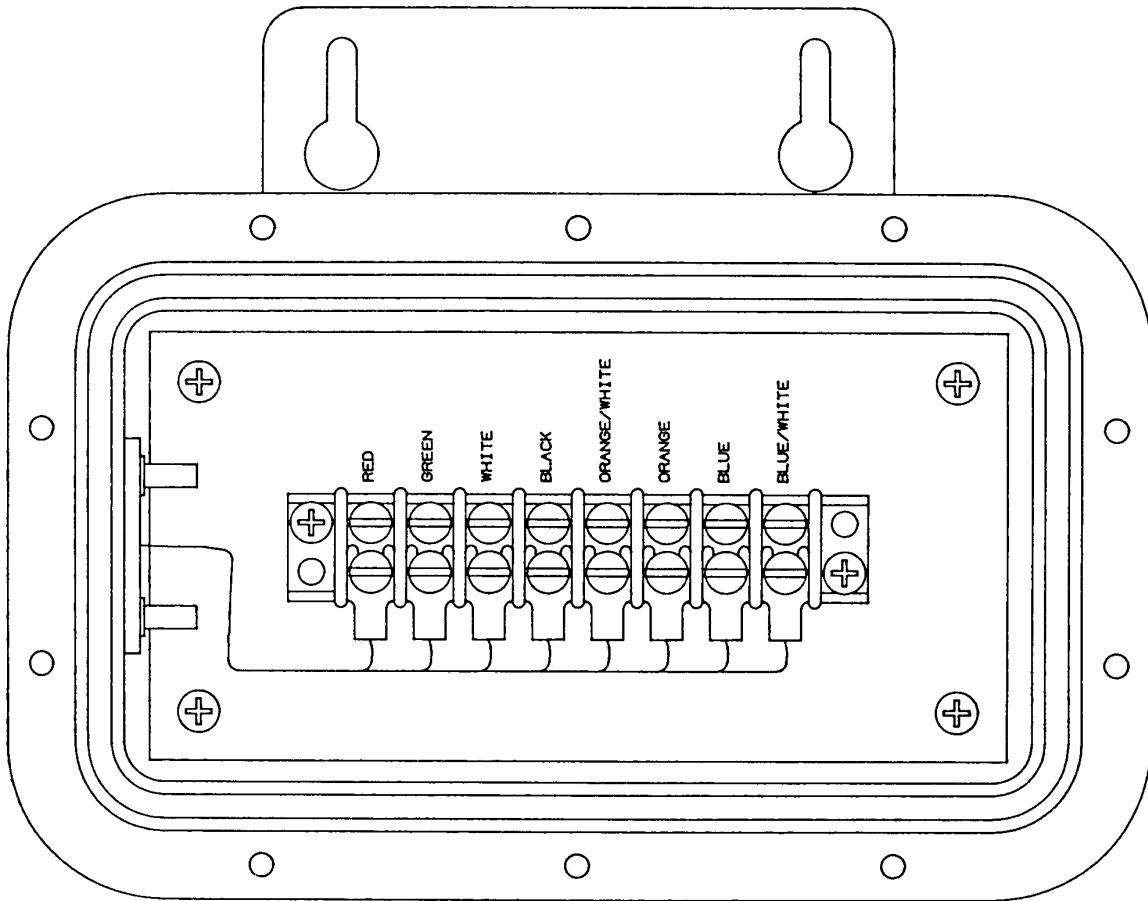

Figure 2-16 Connecting the Custom-Cable Leads to the Disconnect-Box Barrier Block
Thread the cable through the fitting until there is enough lead wire to connect the cable to the barrier block noted in Figure 2-16. If you use conduit, thread the lead wires through the conduit before threading it through a compres-
5. Attach the lead wires as shown in Figure 2-16.